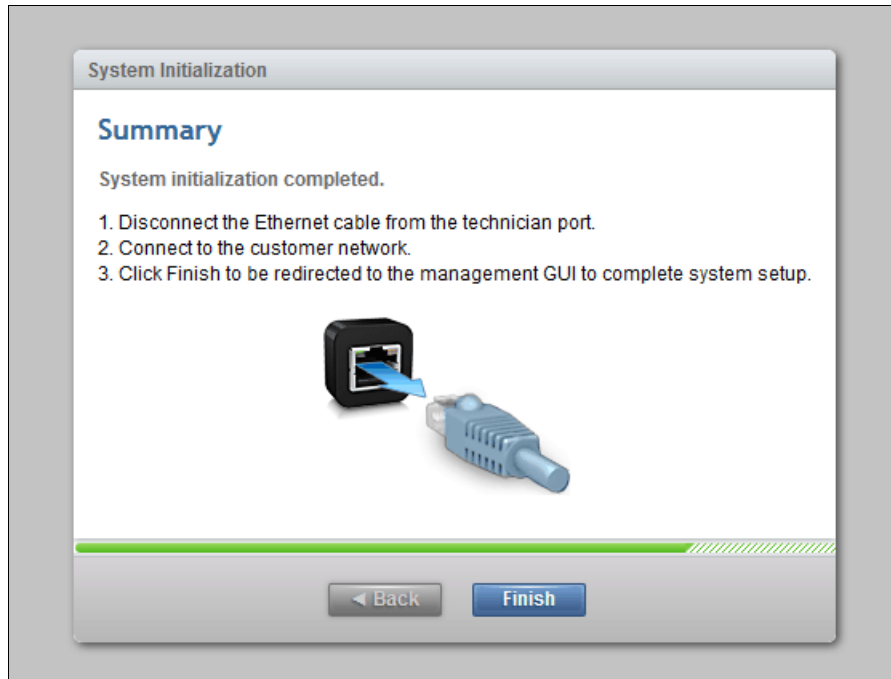

Figure 2-21 System initialization: Completion summary
10. After you complete the initialization process, disconnect the cable between the personal computer and the technician port, as shown in Figure 2-21. Reestablish the connection to the customer network and click **Next** to be redirected to the management address that you provided to configure the system initially.